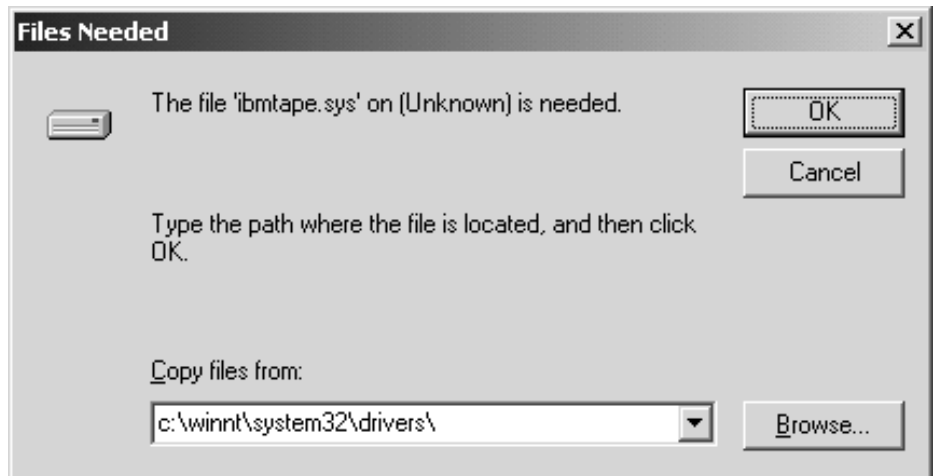

Figure 34. Files Needed Menu
16. If Windows detected new devices either during reboot or rescanning manually for hardware changes, then it will ask for the location of the device driver files. A **Files Needed** window opens. Enter the device driver files location in the **Copy files from:** box. See Figure 34.